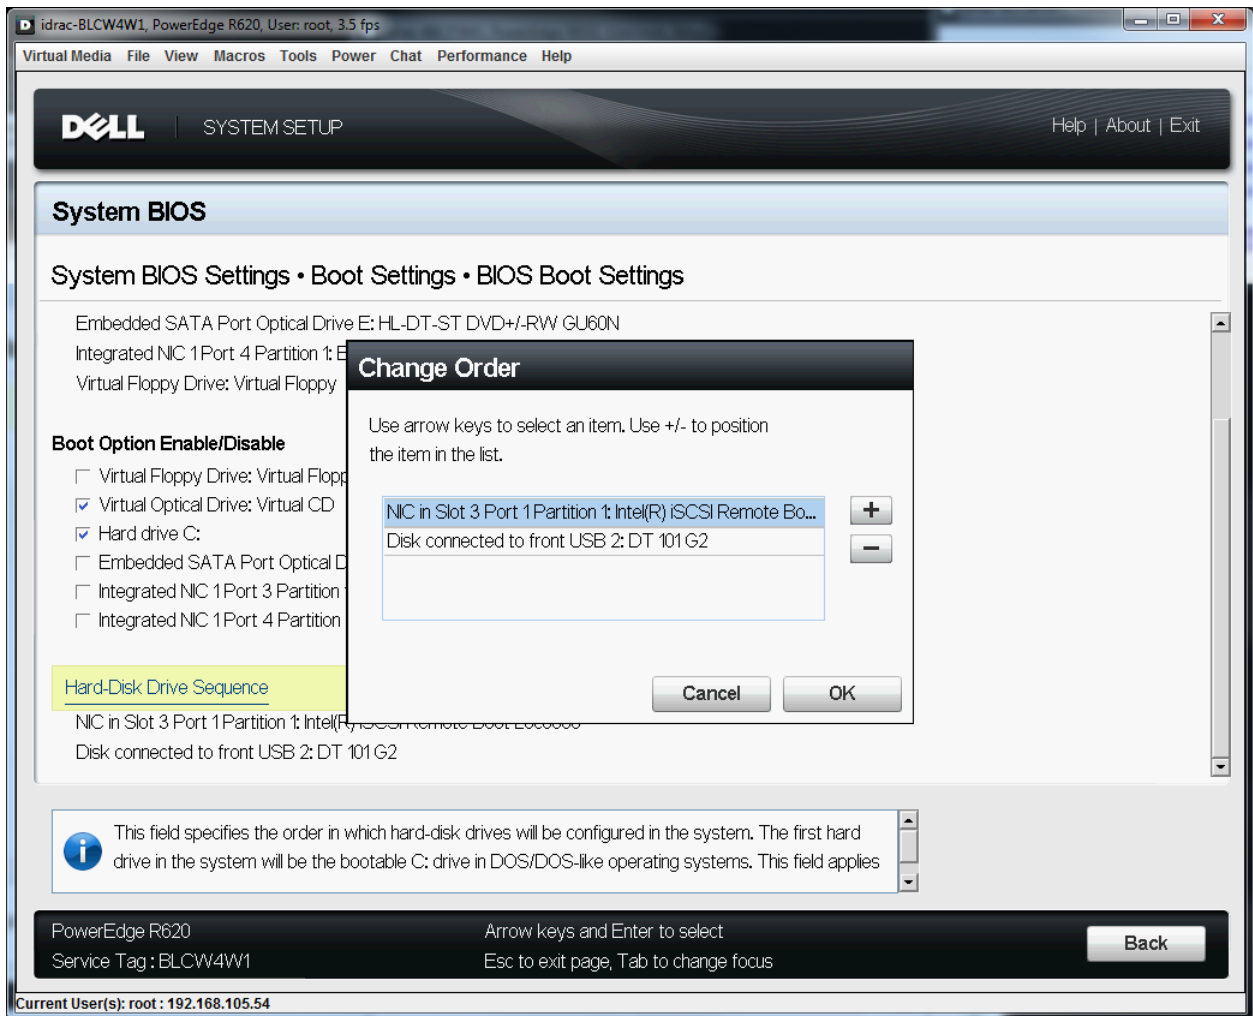

Figure 9 Changing hard disk drive sequence in the system BIOS
- b. In the **Hard-Disk Drive Sequence**, bring the desired network adapter to the top as seen in Figure 9.